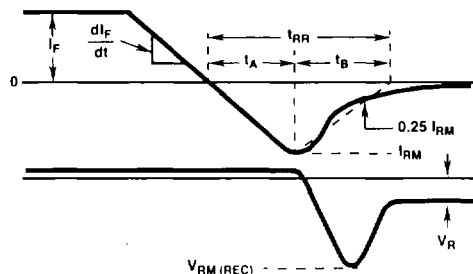

FIGURE 2. DEFINITIONS OF t_{RR} , t_A AND t_B
- t_{RR} = Reverse recovery time at $dI_F/dt = 100\text{A}/\mu\text{s}$ (See Figure 2), summation of $t_A + t_B$.
- t_A = Time to reach peak reverse current at $dI_F/dt = 100\text{A}/\mu\text{s}$ (See Figure 2).
- t_B = Time from peak I_{RM} to projected zero crossing of I_{RM} based on a straight line from peak I_{RM} through 25% of I_{RM} (See Figure 2).